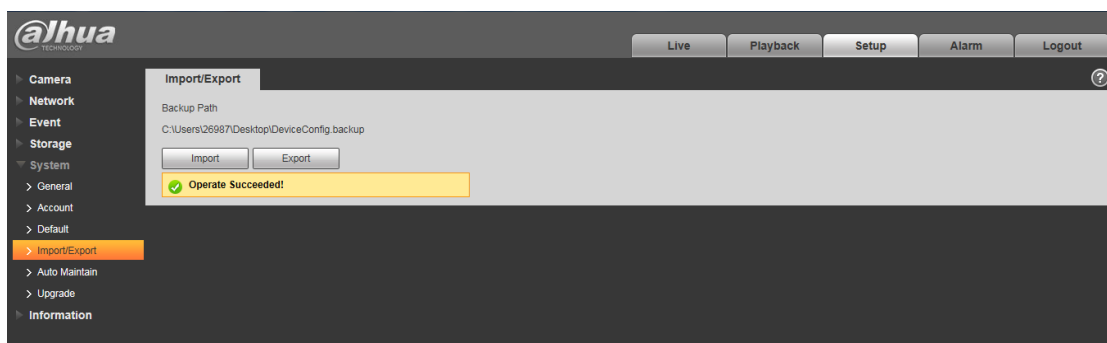

Figure 13-2
2) After setting the IP camera, click 'Export' and choose the path to restore the Config backup, as shown in figure 13-2, operate succeeded.